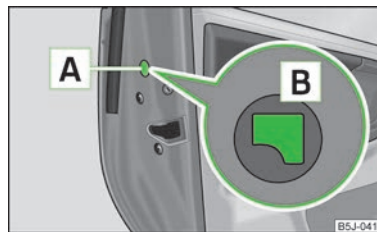

Fig. 16
- › Remove the panel **A** » Fig. 16.